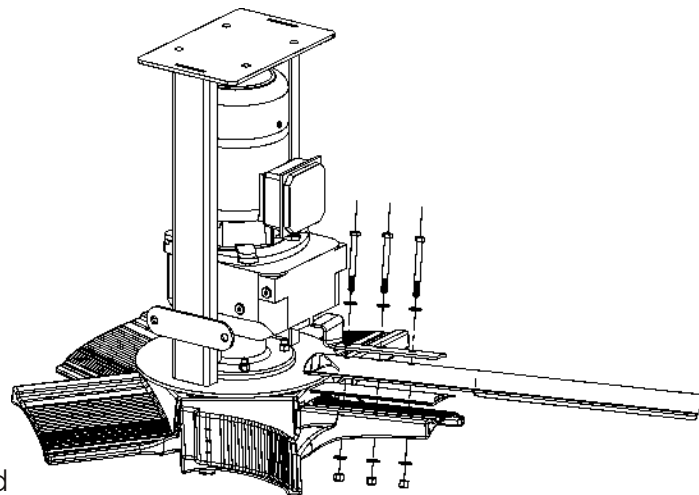

Fig.18
1. Clamp a blade between blade topper and blade shim on each spoke of hub using 3/8" bolts, washers and nylocks [Fig.18].